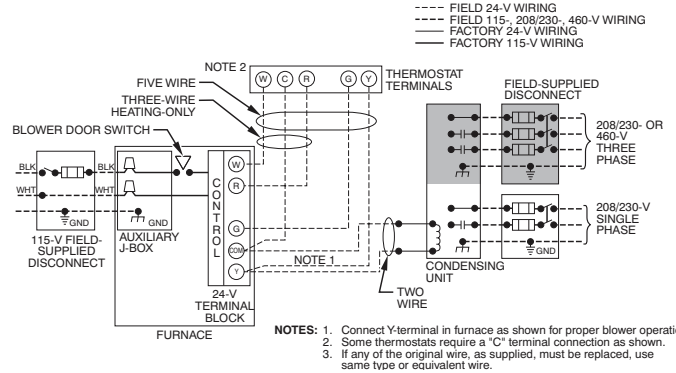
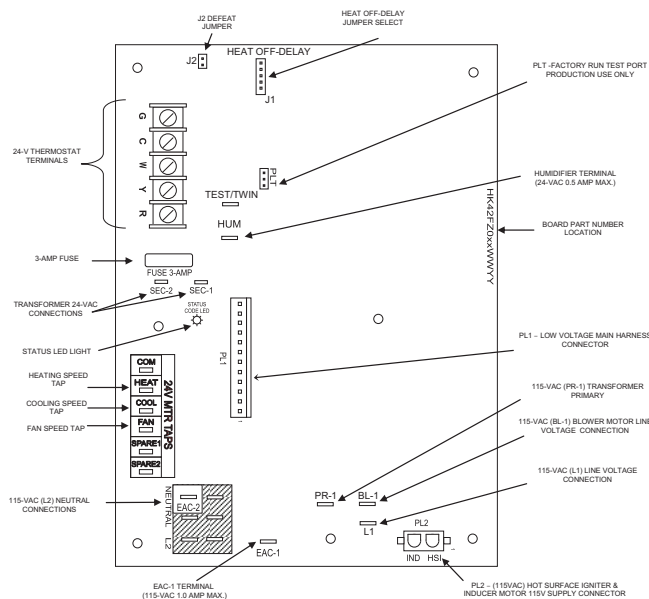
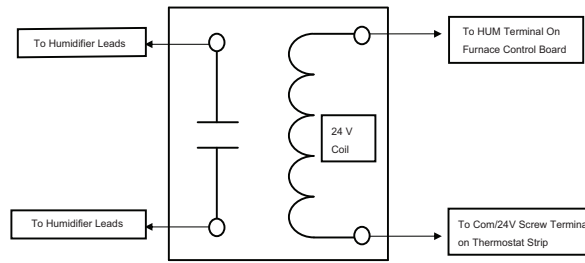

Fig. 33 – Typical Single-Stage Wiring Diagram
Fig. 37 – Example of Single Stage Furnace Control
Fig. 38 – Field-Supplied Isolation Relay for Humidifiers with Internal Power Supply
See Fig. 33 for field wiring diagram showing typical field 115-v wiring. Check all factory and field electrical connections for tightness.
6. Connect power cord power and neutral leads to furnace power leads as shown in Fig. 33.
5. Connect field power and neutral leads to furnace power leads. as shown in Fig. 33.
Make field 24-v connections at the 24-v terminal strip. See Fig. 37. Connect terminal Y as shown in Fig. 33 for proper cooling operation. Use only AWG No. 18, color-coded, copper thermostat wire.
The 24-v circuit contains an automotive-type, 3-amp. fuse located on the control. Any direct shorts during installation, service, or maintenance could cause this fuse to blow. If fuse replacement is required, use ONLY a 3-amp. fuse of identical size. See Fig. 37.
(See Fig. 38 and Fig. 37)
NOTE: If the humidifier has its own 24 VAC power supply, an isolation relay may be required. Connect the 24 VAC coil of the isolation relay to the HUM and COM/24V screw terminal on the control board thermostat strip. See Fig. 38.